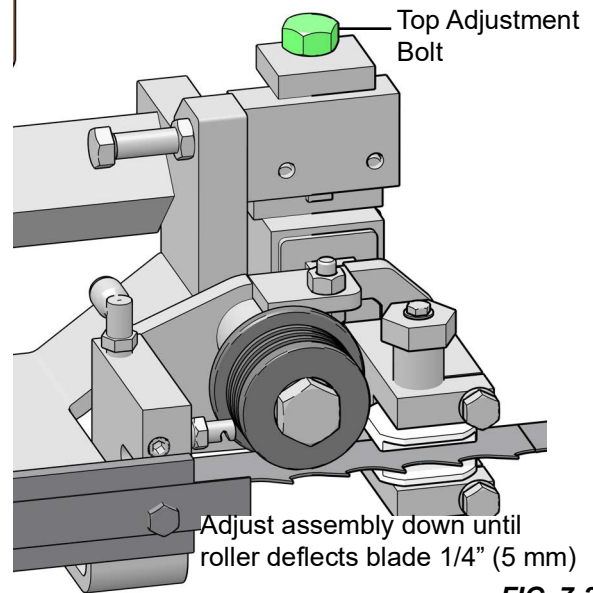

FIG. 7-28
- Turn the top adjustment bolt counterclockwise to lower the assembly until the blade guide roller deflects the blade down until the bottom of the blade measures 14 3/4" (370 mm) from the bed rail. See FIG. 7-28.
The saw head should still be adjusted so the blade is 14 3/4" (375 mm) above the bed rails. See FIG. 7-28.